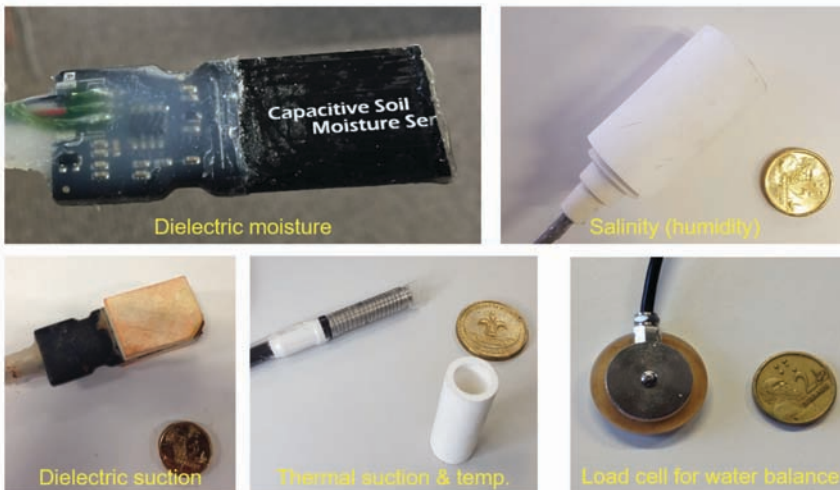

Figure 1. Sensors developed and manufactured at UQ from instrumented column.
The column developed at The University of Queensland (UQ) is manufactured from readily available 200 mm diameter Perspex or PVC tubing. The height of the column is 1.2 m, comprising two or three sections to facilitate filling and dismantling of the column, and with an additional section or sections used to contain the tailings placed as a slurry. The column may be cost-effectively instrumented down its height with up to 10 of each of moisture, matric suction, temperature and salinity sensors manufactured at UQ, together with base load cells to record the water balance, and a data logger with open-source software that downloads data via the internet. The developed sensors are shown in Figure 1.